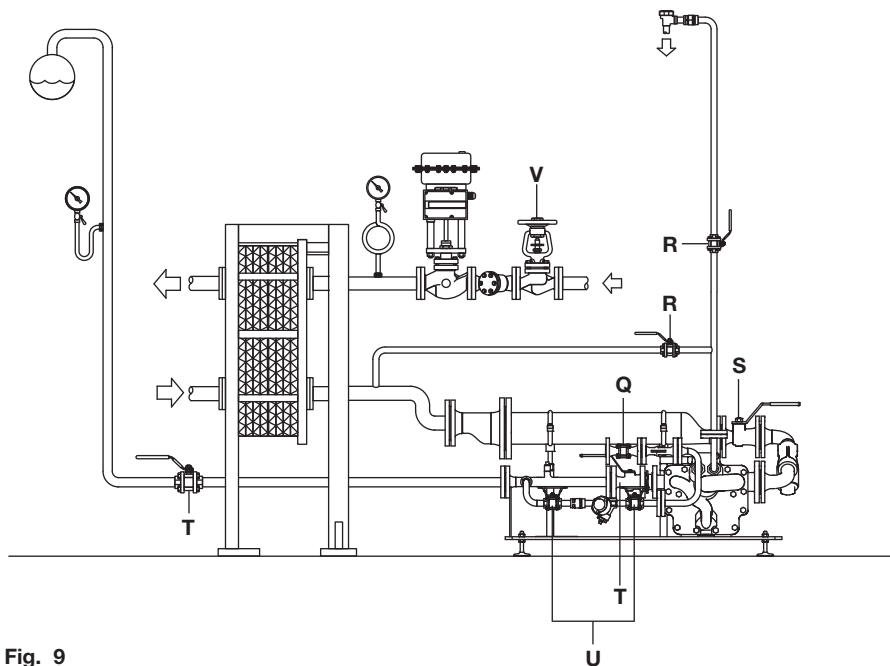

Fig. 9
- Is the exhaust balance line connected to the outlet of the equipment being drained and is it free from obstruction (refer to the installation diagram Figure 9, page 13)?